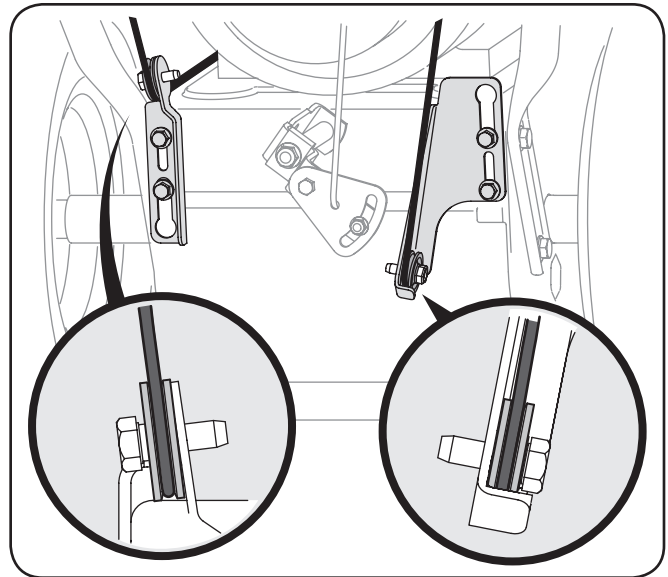
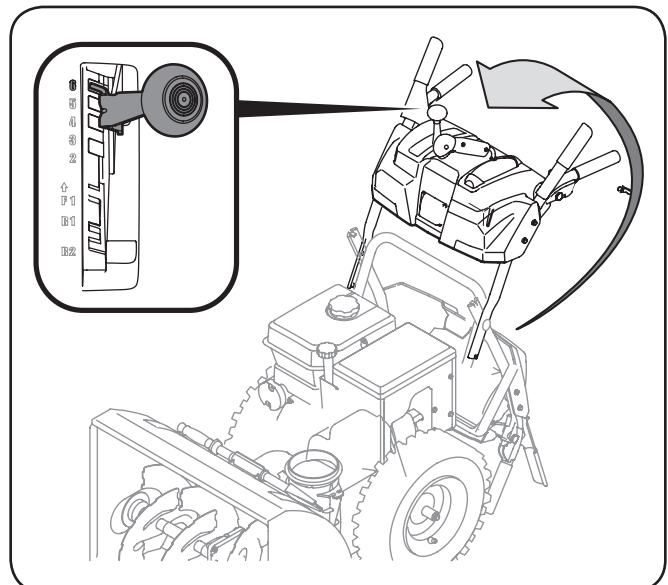

Figure 3-2
Figure 3-3
- Observe the lower rear area of the snow thrower to be sure both cables are aligned with roller guides. See Figure 3-2. Pull up on the upper handle, align the upper handle with the lower handle. See Fig. 3-3.